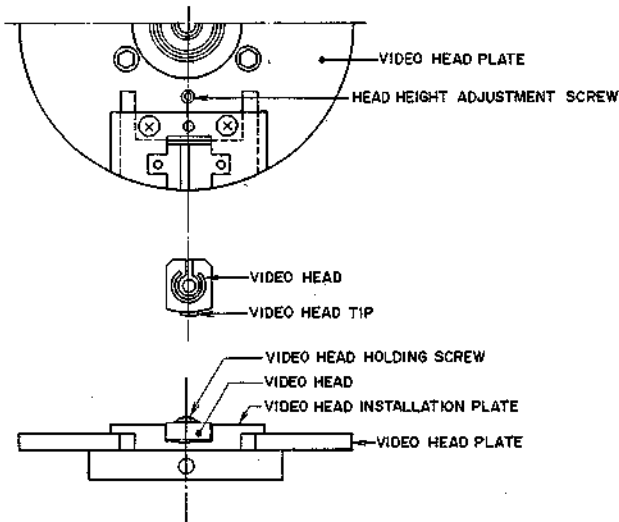

Fig. 4-1
(1) Video Head Replacement (Refer to Fig. 4-1)